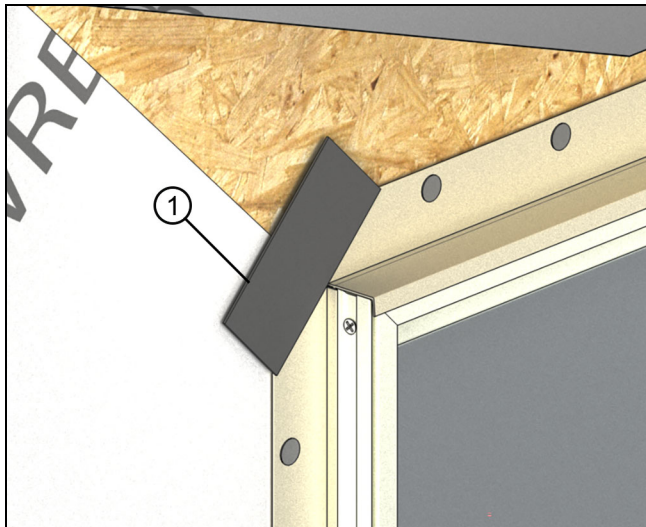

Figure 40
1. On units that use nailing fin, apply a 2" x 4" strip of flashing material at 45 degrees to the corner, bridging the gap between the nailing fin. Do this at all 4 corners. See Figure 40.